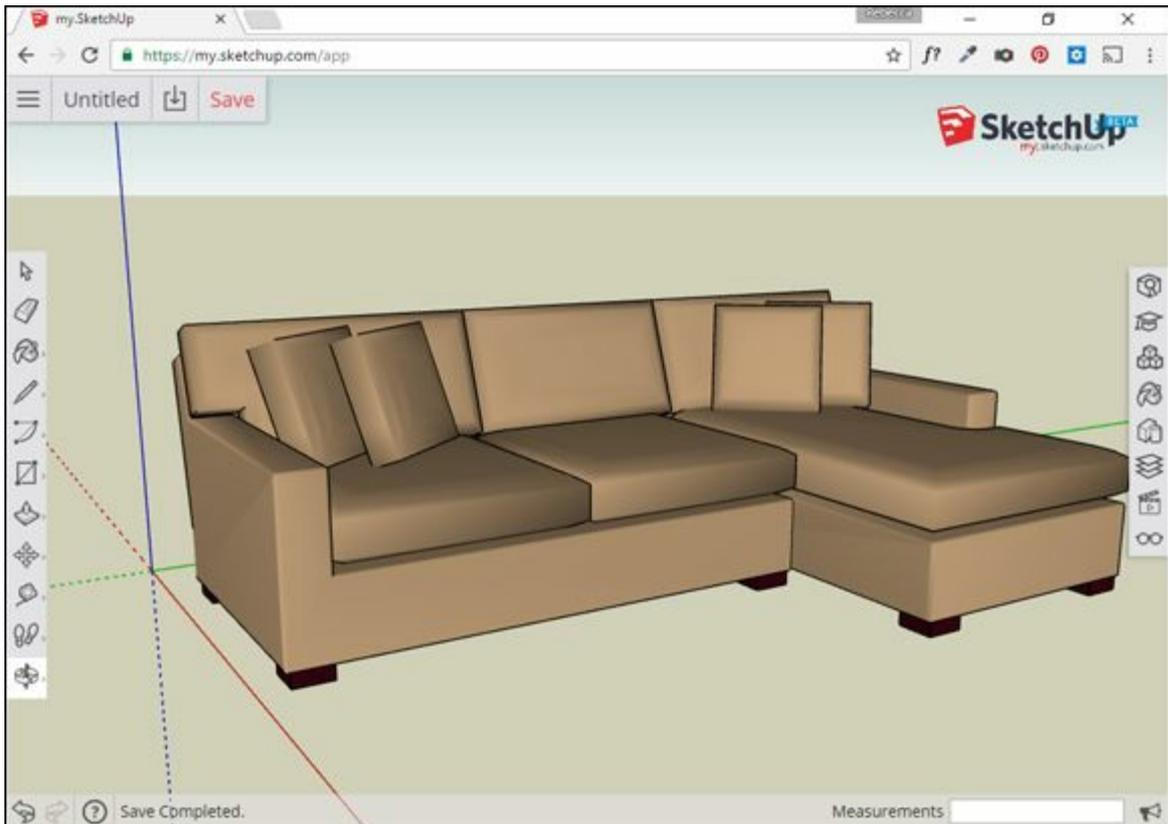

FIGURE 16-2: my.SketchUp enables you to model in a web browser.
- » **my.SketchUp:** This free version of SketchUp runs in a web browser. my.SketchUp debuted in 2016 with a limited toolset, but the main cast of drawing tools is all there, as shown in Figure 16-2. You can expect to see more features as the product evolves. All the tools that are available work almost exactly as they do in SketchUp, although you will find some minor differences to accommodate working in a browser instead of in an application installed on your computer. To get started, visit <http://www.sketchup.com/products/my-sketchup>.